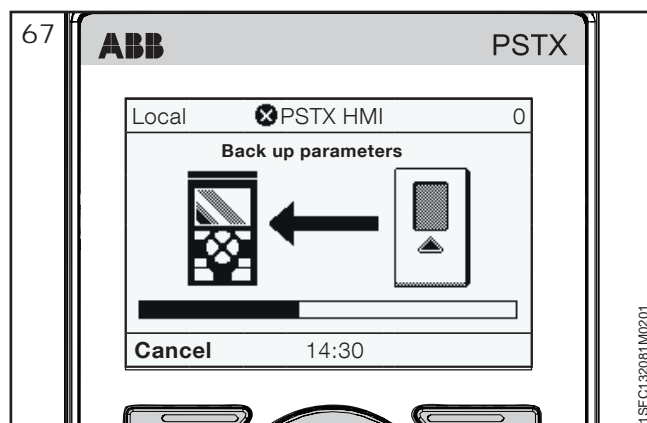

Fig. 67: Downloading parameters.
3. The download of parameters will show as in **Figure 67**. The name of the backup file is displayed as the day, month and year it was created.